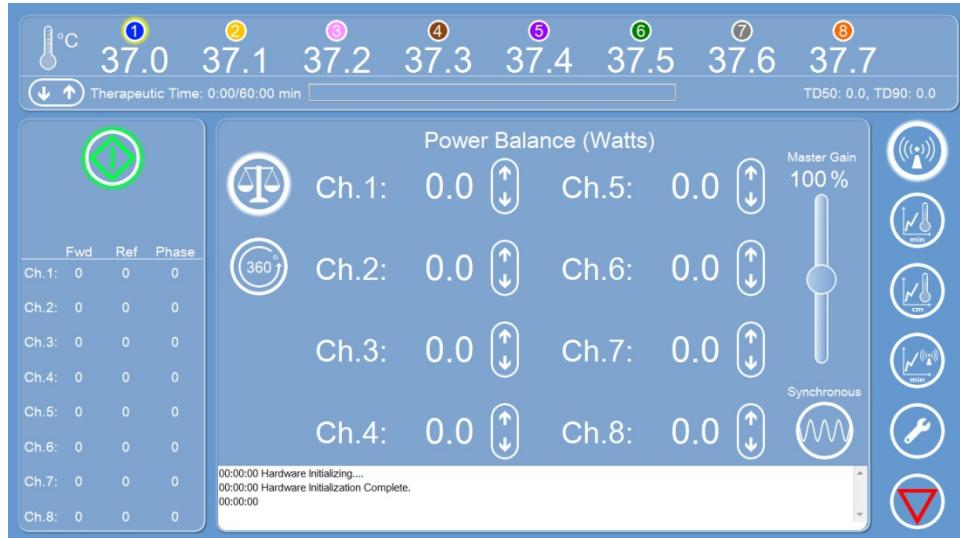

Figure 4-40: Power Balance Control Screen (Multiple Channel Applicator)
- **Power Balance Controls**: discussed below (refer to Figure 4-40)
When the **Synchronous Phase Mode** is enabled on the **RF Controls** screen (Figure 4-40), the **Power Balance** and **Phase Offsets** icon buttons will be visible.
When the **Power Balance** icon button is selected, the **Power Balance** control screen will be displayed (Figure 4-40).